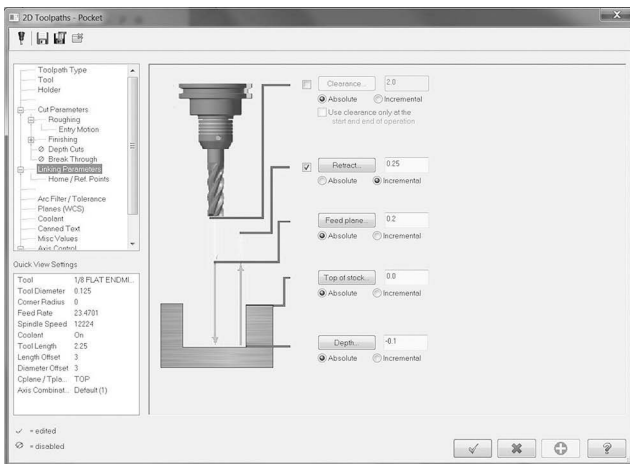

Figure 5-49 Pocket Linking Parameters
- Adjust the Pocket Linking Parameters as shown in Figure 5-49.